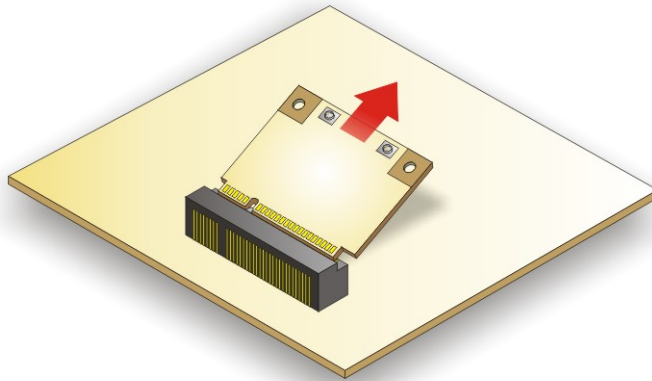

Figure 5-5: Removing the WLAN Card
Step 6: Grasp the WLAN card by the edges and carefully pull it out of the socket (Figure 5-5).